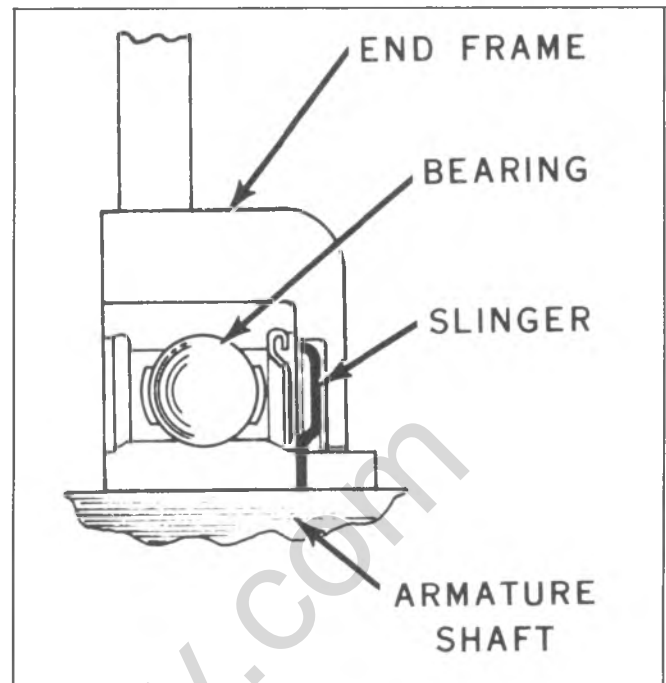

Fig. 6D-14C-Drive End Bearing Cross Section
3. Press bearing into end frame using tube or pipe as in Step 1 with bearing and slinger assembled as shown in Figure 6D-8C.